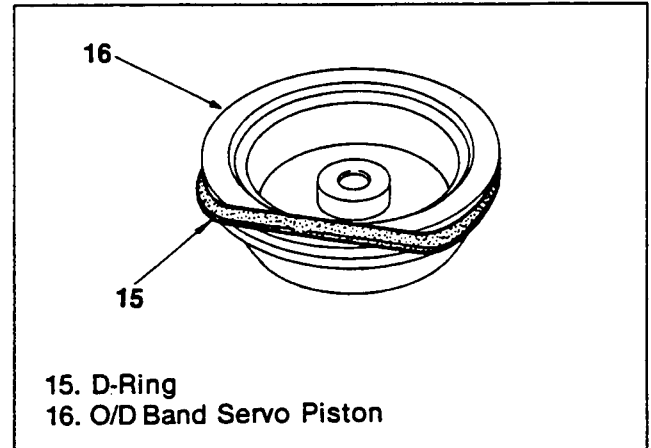

Figure 223. D-Ring Installation
O/D Band Servo Piston (Figures 223 and 224)
1. Apply automatic transmission fluid to a new D-ring, and fit it to the O/D band servo piston (figure 223).